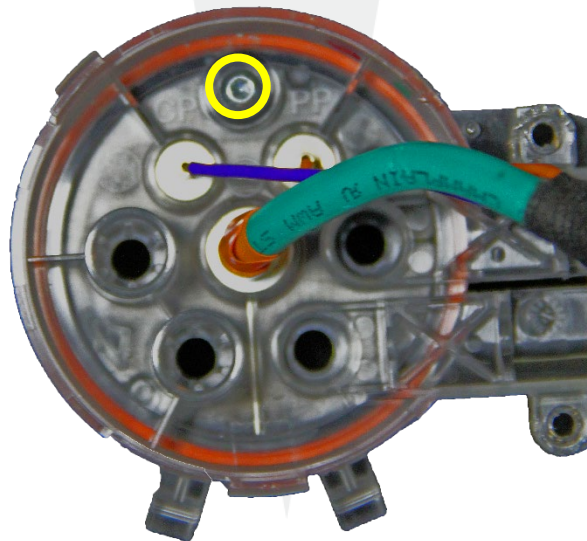

Figure 26
- Remove the screw that secures the pin housing (black plastic) to the pin carrier (Figure 26).